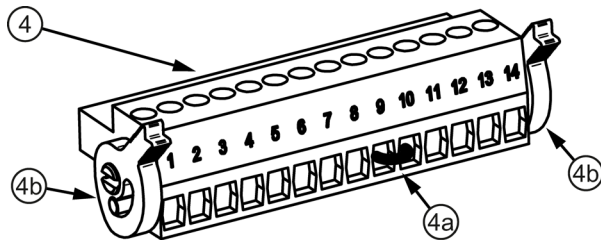

Figure 2-4 Signal connector
The jumper (4a) (see Figure 2-4 Signal connector (Page 16)) between pin 9 and 10 is necessary to operate the device in buffer mode.
The wire jumper on the signal connector ④ between pin 9 and pin 10 (see Figure 2-4 Signal connector (Page 16)) is used to enable/disable the buffer mode.